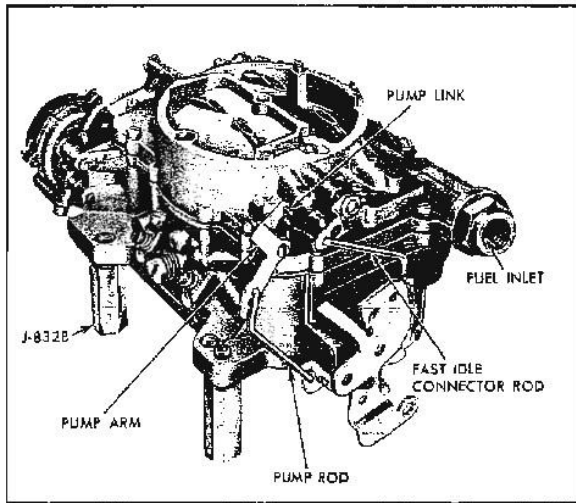

Fig. 6B-75 Carter AFB Carburetor
5. Remove two step-up piston cover plate attaching screws and cover plates (Fig. 6B-76).
6. Remove two step-up rods and step-up pistons. If desired, step-up rod may be separated from piston by unhooking step-up rod retaining spring from end of rod (Fig. 6B-77). Remove two step-up rod piston springs.